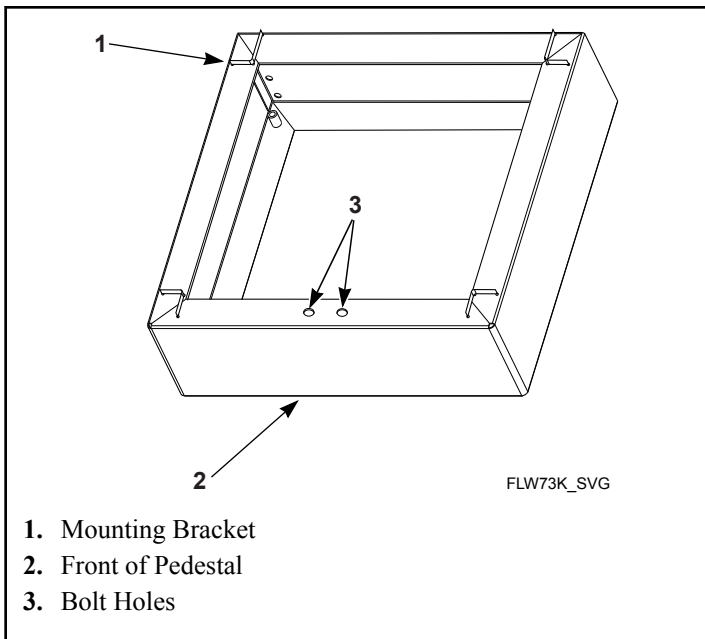

Figure 8
5. Place pedestal into desired location. Front of pedestal has two bolt holes on top flange. Refer to *Figure 8* .
10. With proper help, tilt washer forward and lift. Carefully set washer onto pedestal, placing washer's feet into pedestal's mounting brackets. Refer to *Figure 8* . Make sure pedestal is square with front and back of washer.
12. Install two 5/16 inch cap screws included with pedestal through washer's shipping bracket holes and into pedestal. Refer to *Figure 8* .
8. Place pedestal into desired final location. Front of pedestal has two bolt holes on top, front flange. Refer to *Figure 8*.
13. With proper help, tilt dryer forward and lift. Carefully set unit onto pedestal, placing unit's feet into pedestal's mounting brackets. Refer to *Figure 8* . Make sure pedestal is square with front and back of unit.